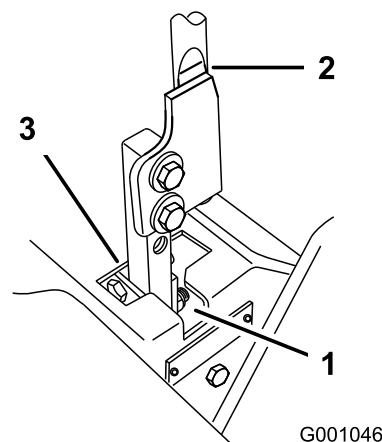

Figure 72
5. Move the lever to the neutral position but not locked (Figure 72).
6. Pull the lever back until the clevis pin (on arm below pivot shaft) contacts the end of the slot (just beginning to put pressure on the spring) (Figure 72).
7. Check where the control lever is relative to notch in console (Figure 72). It should be centered allowing lever to pivot outward to the neutral lock position.